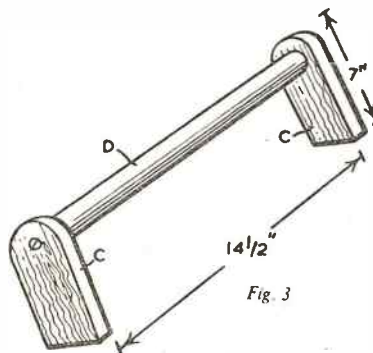

Fig. 3
The handle is made from two pieces of $\frac{3}{4}$ in. wood (C), 7 in. by 2 in., and a piece of 1 in. diameter round rod (D), as indicated in Fig. 3. The pieces C are rounded at the top, and the round rod is secured by glue and countersunk screws.